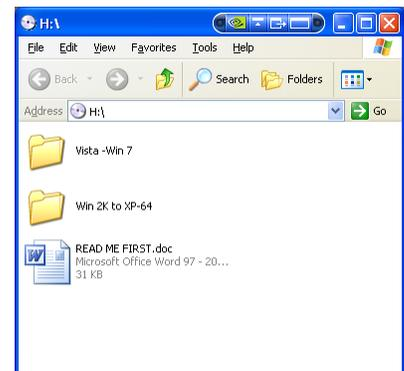

Figure 2. MIDG Series INS/GPS CD-ROM Contents.
1. **Place the MIDG Software and Utilities CD into a CD reader.** Figure 2 shows the root of the CD-ROM. As shown, the root of the CD-ROM will contain the two (2) folders and a document file listed below: